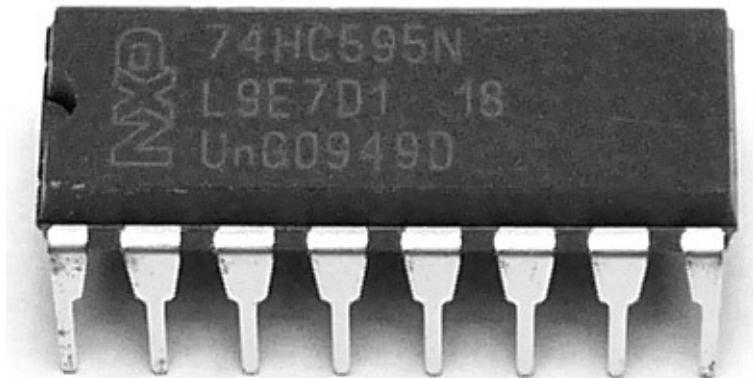

Figure 6-4. The 74HC595 shift register IC
The Arduino board has 13 digital pins that we can use as outputs—but sometimes 13 just isn't enough. To add outputs, we can use a *shift register* and still have plenty of room left on the Arduino for outputs. A shift register is an integrated circuit (IC) with eight digital output pins that can be controlled by sending a byte of data to the IC. For our projects, we will be using the 74HC595 shift register shown in Figure 6-4.
To give you a sense of the way pins are oriented, the semicircular notch on the left end of the body of the shift register IC shown in Figure 6-4 lies between pins 1 and 16.